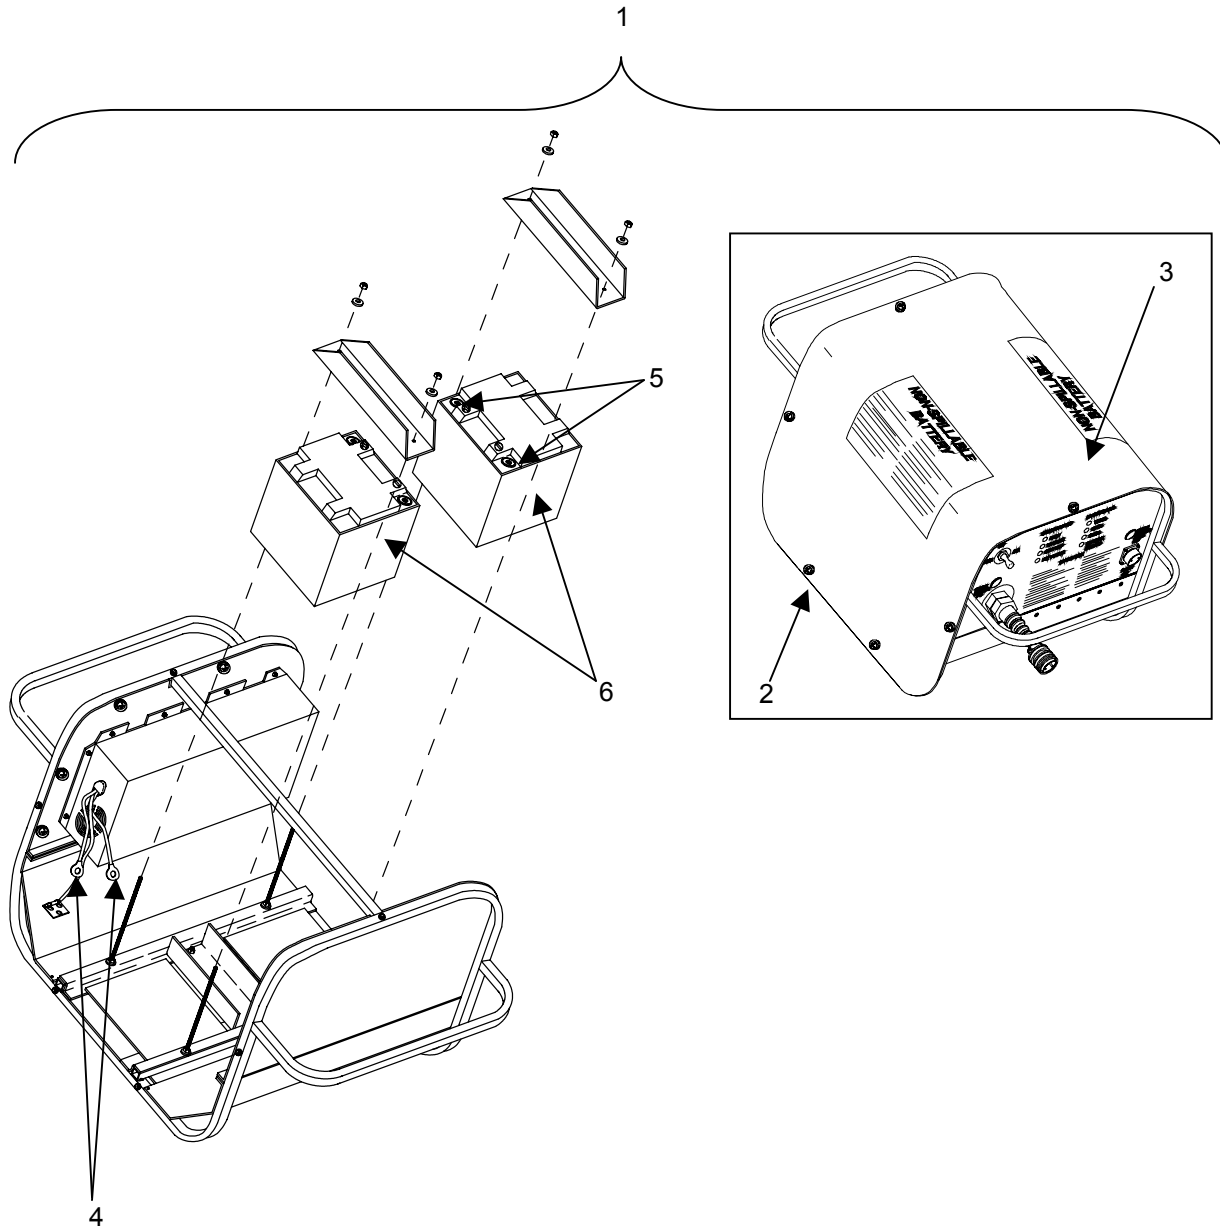

Figure 2. Test the Batteries
3. Remove the screws(**figure 2, item 2**) retaining the Battery Pack cover (**figure 2, item 3**) and remove the cover.
4. Tag and disconnect the power leads (**figure 2, item 4**) that extend from the charger to the battery terminals (**figure 2, item 5**) so that the batteries (**figure 2, item 6**) are no longer connected to the charger or each other.
5. With a Multimeter set to measure DC Volts, place the (+) positive lead of the Multimeter on the (+) positive terminal of one battery (**figure 2, item 6**) and the (-) negative lead of the Multimeter on the (-) negative terminal of the same battery.
6. Read the output voltage of the battery (**figure 2, item 6**) on the Multimeter. If the voltage is 11VDC or less, the battery is most likely no longer capable of holding a full charge and requires replacement.
7. Repeat steps 5 and 6 with the remaining battery (**figure 2, item 6**).
8. Connect the power leads (**figure 2, item 4**) to the battery terminals (**figure 2, item 5**) as tagged.
9. If the batteries (**figure 2, item 6**) pass the voltage test, install the cover (**figure 2, item 3**), and retain with screws (**figure 2, item 2**).